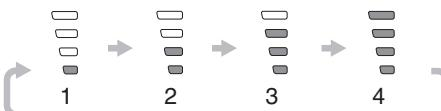

Fig. 15
### (1) High / Low mode selector switch (Fig. 15, Table 5)